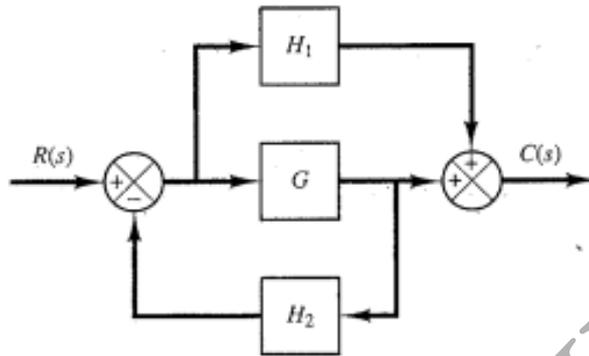

Figure Q3(a)
A dynamic system is shown in the block diagram below, Figure Q3(a),
- a) Show how the block diagram in figure Q3(a) could be reduced to describe the output over the input C/R . **[10 marks]**